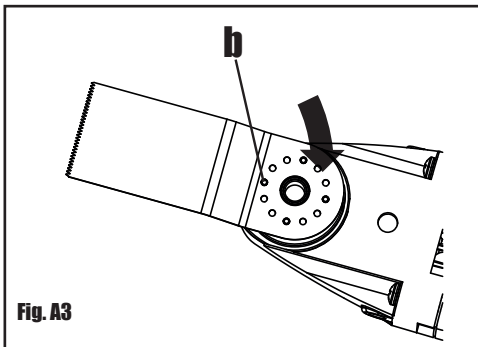

Fig. A3
3) Place the end cut blade onto the shaft first, and then place the flange onto the blade. (See Fig. A3, A4)